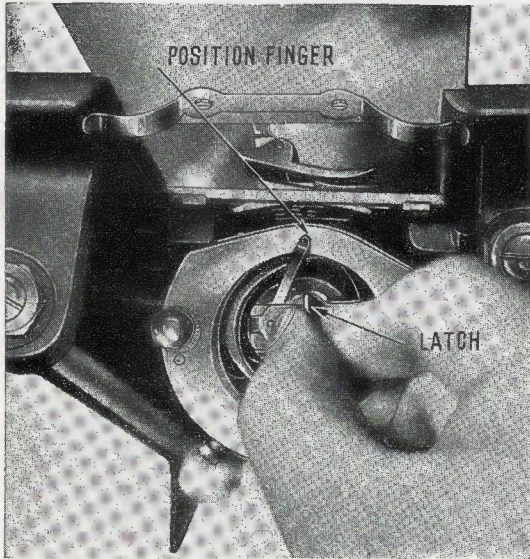

Fig. 8
4. After threading the bobbin case, hold its latch (Fig. 8)
and place it on the center stud of the shuttle (Fig. 8).